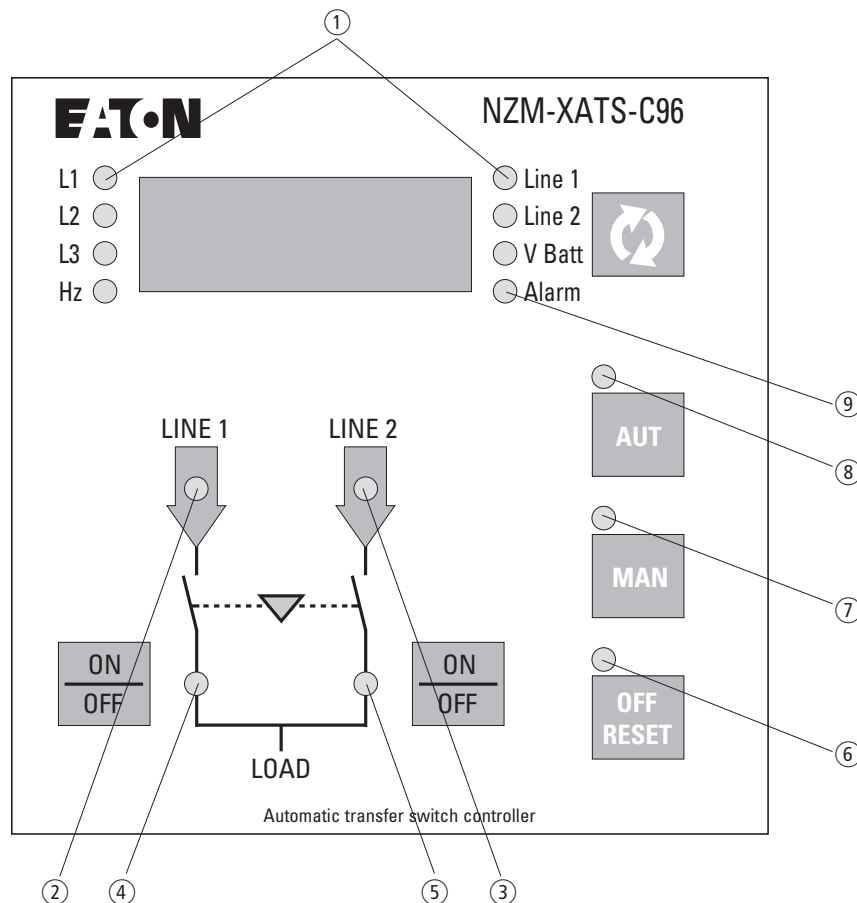

Figure 4: Keypad, LED
If the main supply values lie outside the limit values (green LED LINE 1/ LINE 2 off, → Figure 4, page 8 ① and ③), the NZM-XATS-C96 isolates the consumer from the main supply and switches in the standby supply after the set timed delay. The Automatic Transfer Switch-Controller controls both switching and lead time of the generator (if present) and the timed delay.